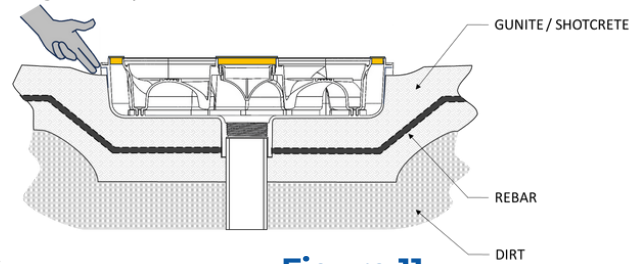

Figure 11
- c. Apply Shotcrete/Gunitite:** Once the drain is secured, apply the gunitite around the drain, filling in the trench and blending the drain seamlessly with the pool floor. Create a void around the waterstop by making a 2-finger swipe to approximately ½ inch below the waterstop. This will ensure enough room for the final surface to be applied, creating a watertight seal around the drain. (See Figure 11).